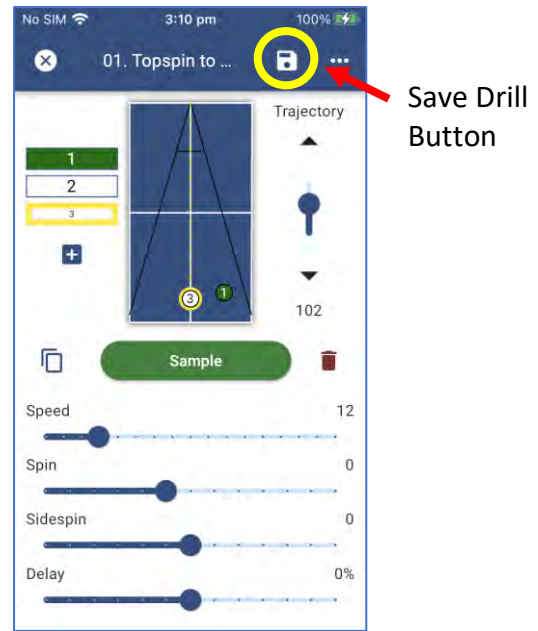

Figure 3-44
3. Press the + icon again, to add a third ball. Your screen should now show that the drill has 3 balls. (Figure 3-44). Ball 3 has now been added and is positioned right on top of Ball 2.
You will note that the Drill Save button is enabled, anytime you edit a Drill. (Figure 3-44) If you wish to Save the changes that you have made – in this case adding to Balls to the Drill, Press the Save button.